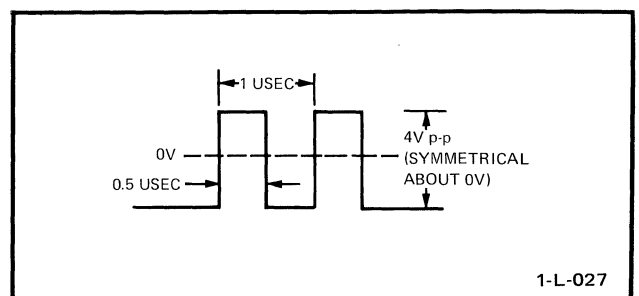

Figure 5-10. Delay Set Test Waveform
d. Apply waveform shown in figure 5-10 to clock probe input and to timer-counter EXT OSC input.